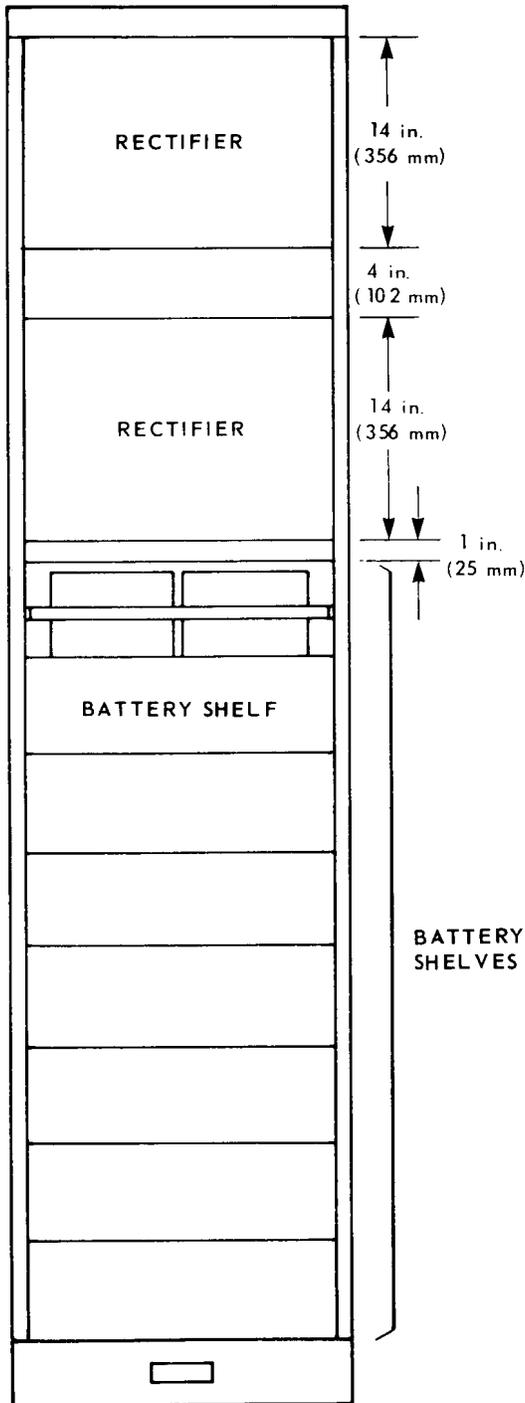

Fig. 1 — J7209C Power Bay (7 Foot)
2.02 The layout of the 7-foot power bay is shown in Fig. 1. The rectifiers are placed at the top of the bay to prevent heating the batteries. Each battery shelf holds four 12-V batteries wired in series to provide a nominal 48 V.